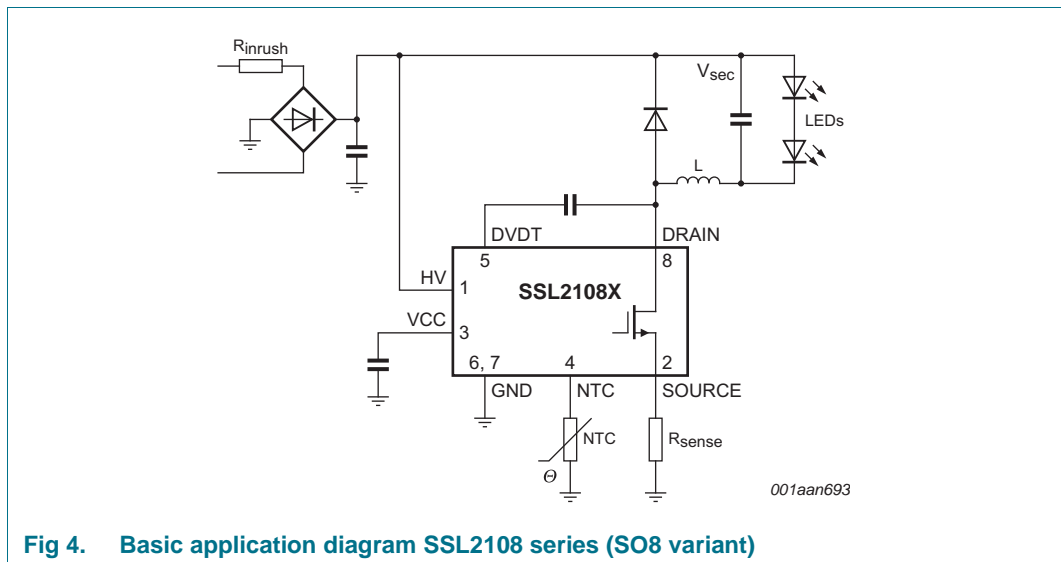
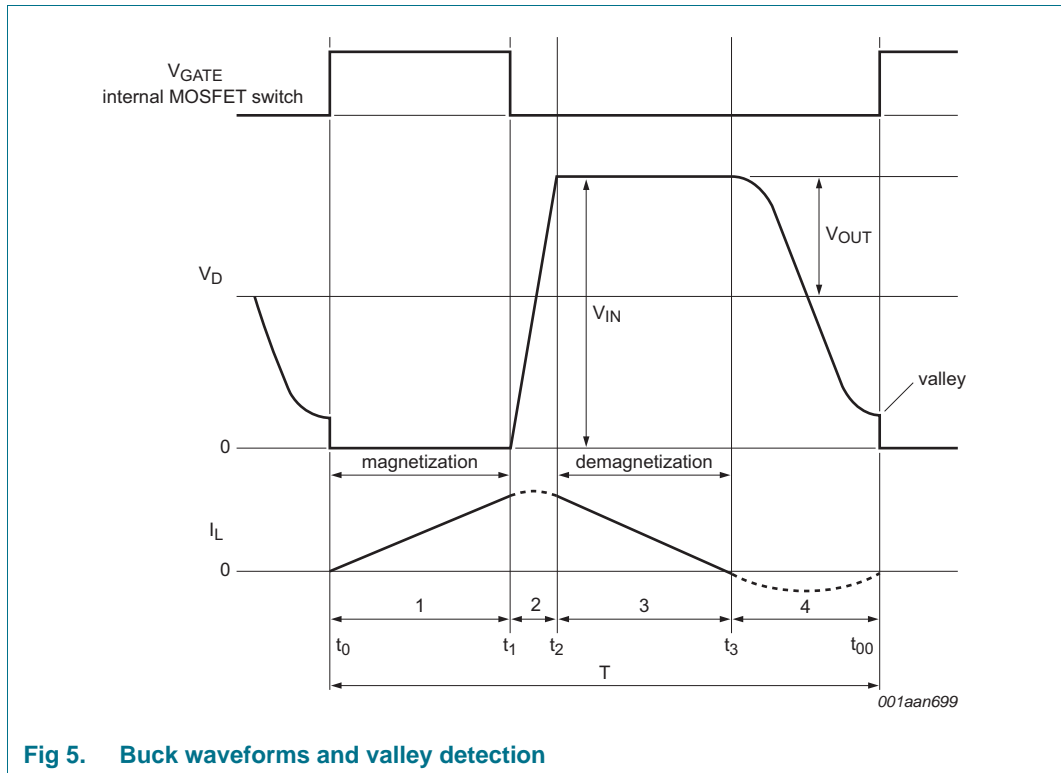

Fig 4. Basic application diagram SSL2108 series (SO8 variant)
Fig 5. Buck waveforms and valley detection
- Low component count (see Figure 4) LED driver solution:
The converter in the SSL2108 series is a Boundary Conduction Mode (BCM), peak current controlled system. For the basic application diagram see Figure 4, for the waveforms see Figure 5. This converter type operates at the boundary between continuous and discontinuous mode. Energy is stored in inductor L each period that the switch is on. The inductor current I_L is zero when the internal MOSFET switch is switched on. Thereafter, the amplitude of the current build-up in L is proportional to $V_{IN} - V_{OUT}$ and the time that the internal MOSFET switch is on. When the internal MOSFET switch is switched off, the current continues to flow through the freewheel diode and the output capacitor. The current then falls at a rate proportional to the value of V_{OUT} . The LED current I_{LED} is almost equal to half the peak switch current. A new cycle is started, as soon as the inductor current I_L is zero.
A new cycle is started when the primary switch is switched on (see Figure 5). Following time t_1 , when the peak current is detected on the SOURCE pin, the switch is turned off and the secondary stroke starts (3). When the secondary stroke is complete and the coil current at t_3 equals zero, the drain voltage starts to oscillate around the $V_{IN} - V_{OUT}$ level. The amplitude equals V_{OUT} . A special feature, called valley detection is an integrated part of the SSL2108 series circuitry. Dedicated built-in circuitry connected to the DRAIN pin, senses when the voltage on the drain of the switch has reached its lowest value. The next cycle is then started and as a result the capacitive switching losses are reduced.